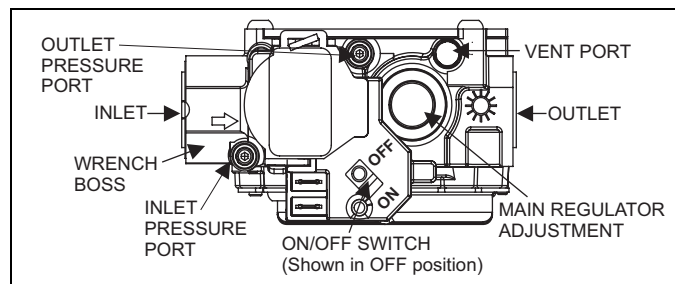

FIGURE 4: Gas Valve - White Rodgers
- Move gas control switch to the "OFF" position. Do not force. See Figure 4.
- Wait five (5) minutes to clear out any gas. If you then smell gas, STOP! Follow "B" in the safety information above. If you don't smell gas, go to next step.
- Move gas control switch to the "ON" position. Do not force. See Figure 4.
- After three (3) trials for ignition, if the appliance will not operate follow the instructions, "TO TURN OFF THE APPLIANCE" and call your service technician or gas supplier.
- Move gas control switch to the "OFF" position. See Figure 4.
Should overheating occur, or the gas valve fail to shut off, turn the external manual gas valve in the gas supply line to the furnace to the "off" position and let the furnace cool off before shutting off the electrical power supply. Refer to Figure 4.